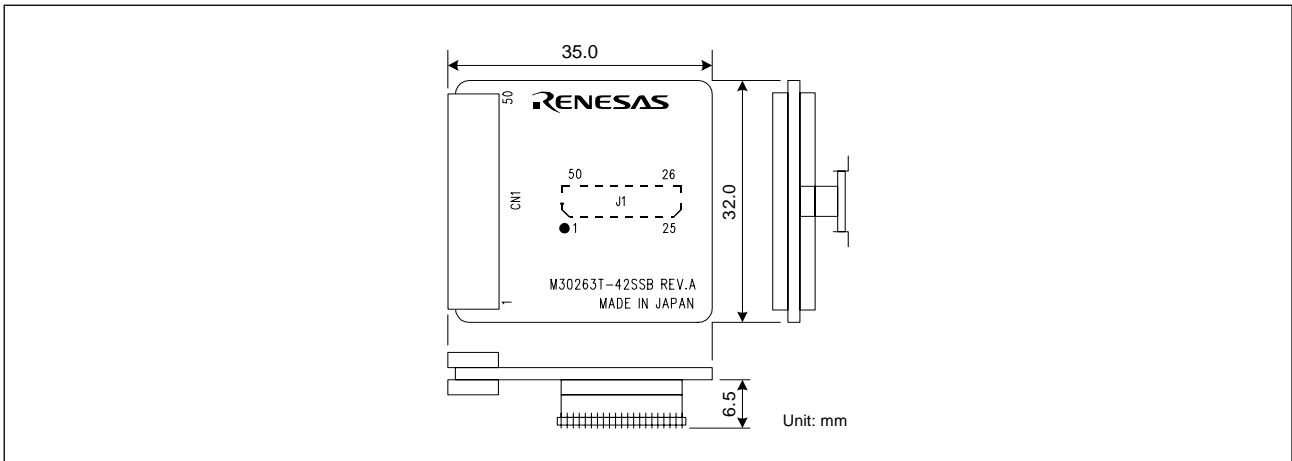

Figure 3 External Dimensions of the M30263T-42SSB
5. External Dimensions of the M30263T-42SSB (See Figure 3)